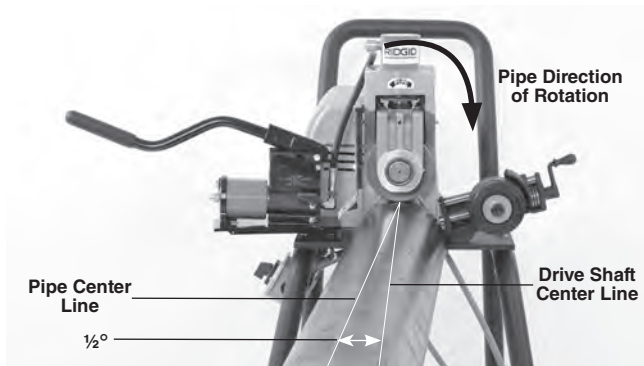

Figure 12 – Offsetting the Pipe $\frac{1}{2}^\circ$, (Exaggerated)
roll rotates in a clockwise direction matching the pipe rotation decal on the groover, *See Figure 12*. Have the machine serviced if it rotates in the wrong direction or if the foot switch does not control its stopping or starting.
7. Slightly offset the pipe and pipe stands approximately ½ degree (about 1" over at 10 feet from the roll groover) towards the operator. Proper alignment of the pipe and roll groover helps to ensure proper tracking of the pipe while grooving (See Figure 12). This is proper offset for grooving and works with the stabilizer.
- Slightly increase the offset of the pipe (increase from 1/2 degree to 1 degree) See *Figure 12*.